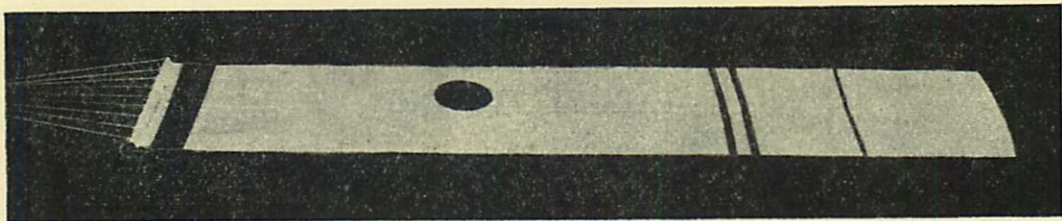

Fig. 2. Banner Target (30 ft. \times 5 ft. 6 ins.)
10. **Banner Targets.** The standard banner or flag target is made of nylon net and its dimensions are 30 ft. \times 5 ft. 6 ins. (Fig. 2). It has a metal bar at the front which is weighted at one end to make it fly upright.